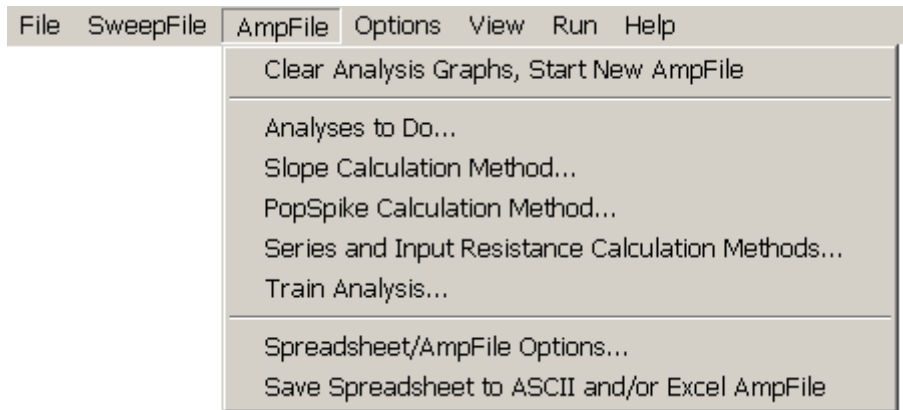

Fig. 3.2.3. Amplitude File Menu.
- 3) Amplitude or **A**mp**F**ile Menu for performing sweep analysis and reanalysis (Fig. 3.2.3)